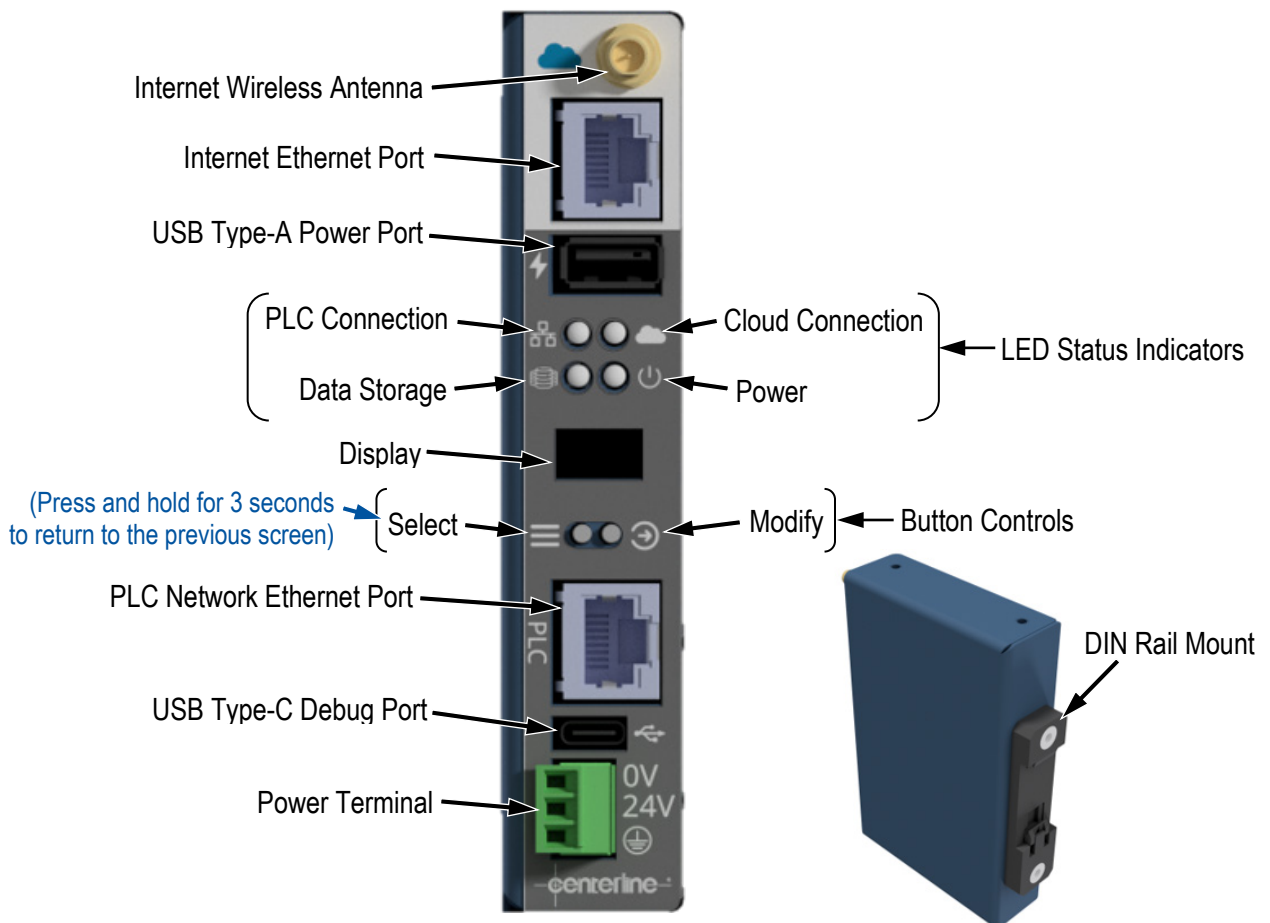

Figure 3 – Configuration of CenterPoint™ Edge (front and back views)
Refer to Figure 3 on the previous page for visual representation of the ports and terminals described below:
The CenterPoint™ Edge is designed to be mounted to 35 mm DIN Rail. See Figure 3 on page 10 for reference.
Navigation through these screens is controlled from the **Select** (☰) and **Modify** (⌂) buttons situated on the front of the CenterPoint™ Edge device (see the “Button Controls” in Figure 3 on page 10). The functionality of these buttons is described in Table 3 below.
To enable the Access Point Mode (AP Mode), use the buttons on the front of CenterPoint™ Edge device (see Figure 3 on page 10 for visual representation) and follow the steps below:
4. Press the **Modify** button () to turn the “AP Mode” ON. (Pressing **Modify** button again will turn the “AP Mode” OFF). When the “AP Mode” is ON, the Cloud Connection LED will start flashing blue (see Figure 3 on page 10 for components reference).